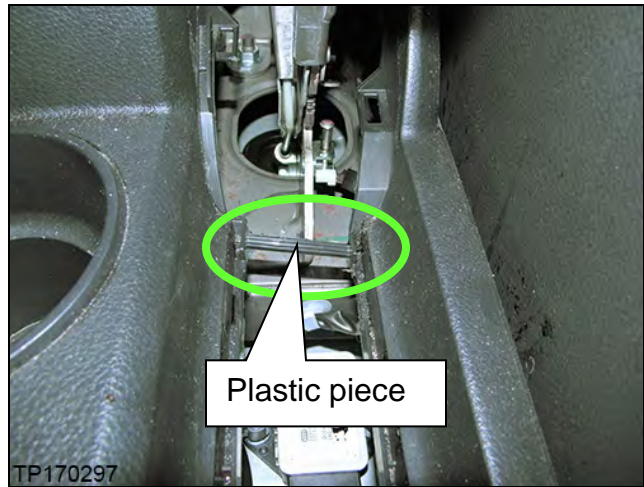

Figure 2
4. Remove the center console “plastic piece” shown in Figure 2 as follows: